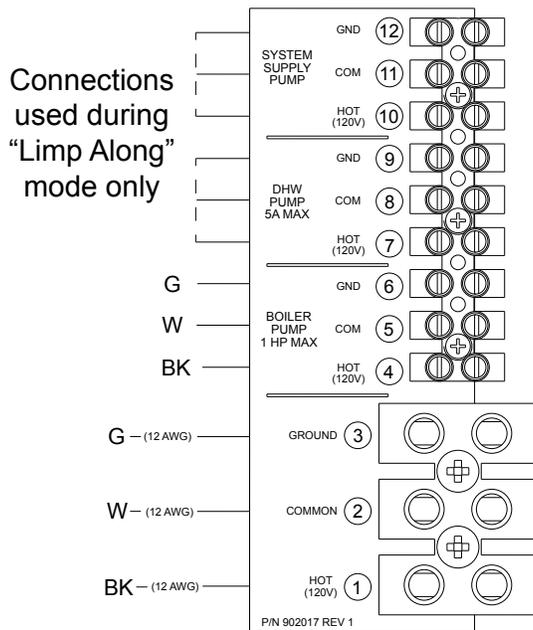

Figure 23. VERSA Follower
- For each follower boiler, connect the boiler pump wires to the terminal block at the rear of each unit. Connect to terminals 4, 5, and 6. See **Figure 23**.